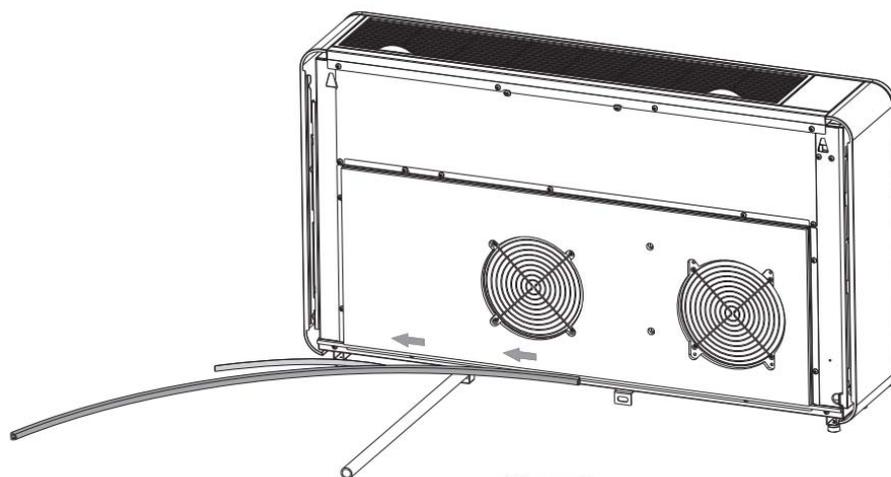

Figure 1
1. The sealing strip should be applied along the edge of the machine, as shown in Figure1.